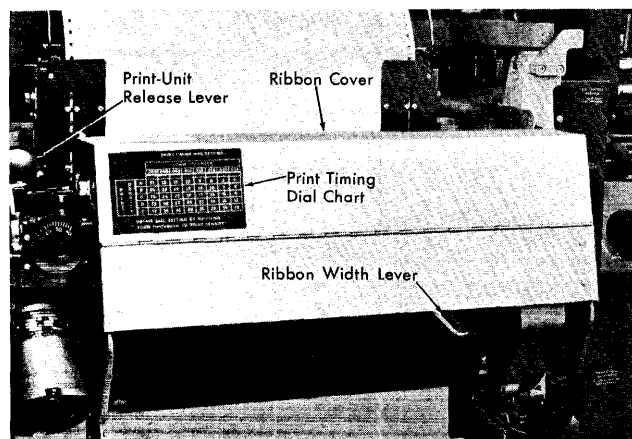

Figure 30. IBM 1403 (Front Cover Open)
3. Unlock and swing back the print unit by pulling the print-unit release lever (Figure 30) toward you.
Ribbons are available in widths of 11" and 14". The ribbon-width lever (Figure 30) adjusts the ribbon-feed mechanism to accommodate one width or the other.